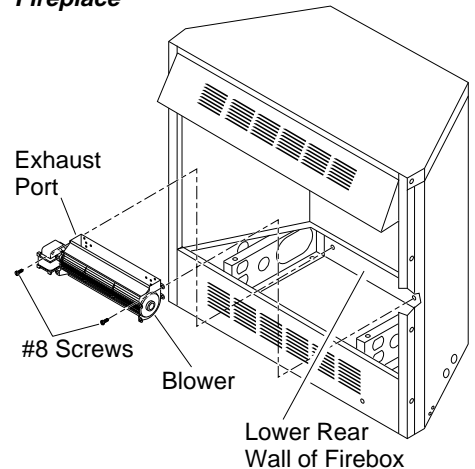

Figure 9 - Mounting Blower to Fireplace
4. Place the blower against lower rear wall of firebox outer wrapper with the exhaust port directed upward. Align the holes in top mounting tabs of blower with holes in wall of wrapper (see Figure 9). Using two #8 screws provided, mount blower and tighten screws firmly.